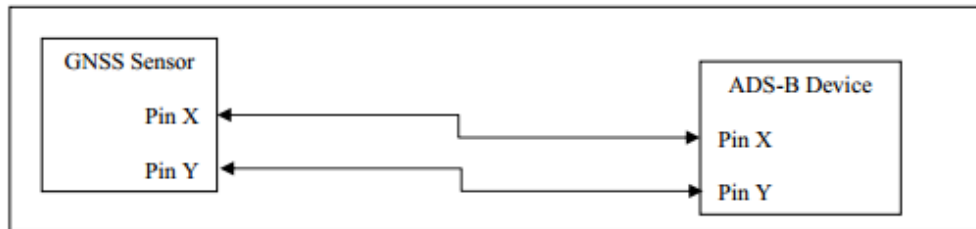

Figure 1: ADS-B/GNSS Sensor Installation Wiring
- c) The ADS-B Out equipment (transponder or Universal Access Transceiver (UAT), GNSS position sensor, and interconnect wiring are identical to previously-approved design under type certificate or supplemental type certificate (see example in figure 1);